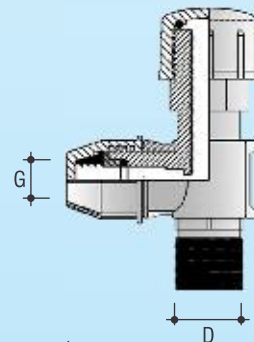

Fig.1
1. Fix the PP Tapping Ferrule onto the PP Clamp Saddle outlet by turning the PP Tapping Ferrule in clockwise direction. (Figure 1)
3. Clamp the PP Saddle onto the main pipe by fastening the bolts and nuts. (Figure 1)